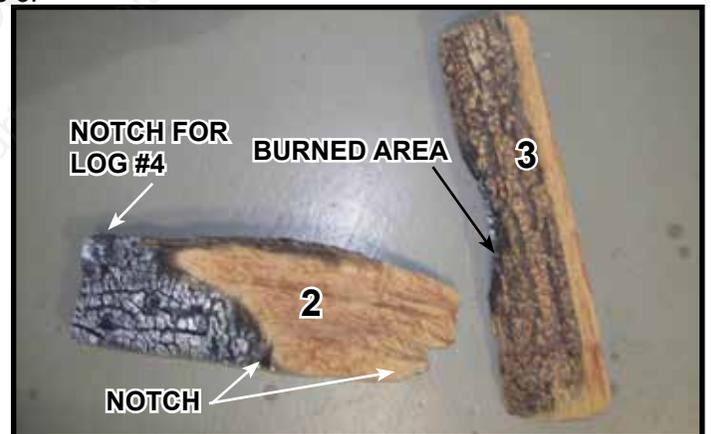

Figure 4.
**Log #2 (SRV2282-702):** Locate log placement notches on the bottom of Log #2. See Figure 4. Mate notches on the bottom of Log #2 as shown in Figure 5. Notch on front of log will contact right front grate tine and notch on right side of log will contact front inside corner of side grate tine.